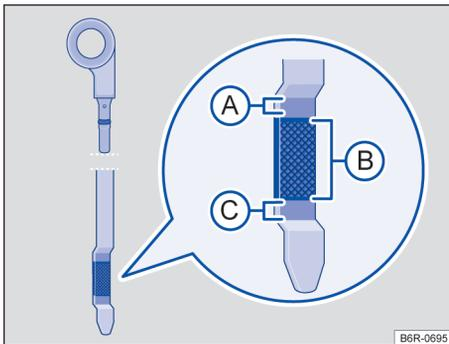
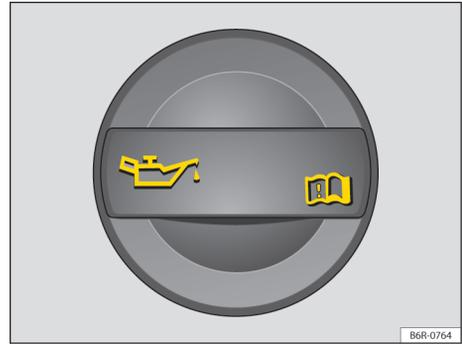

Fig. 171 Oil dipstick with markings.
Fig. 172 On the engine compartment: engine oil opening lid.
When the engine is working hard, the oil level must be kept within the → Fig. 171 (A) area – for instance during long motorway cruising in summer or climbing mountain passes.
Key for → Fig. 171:
4. Identify the engine oil filler cap and oil dipstick. The engine oil filler opening bears the  symbol on the cap → Fig. 172 and the oil dipstick has a coloured handle. If you cannot find the cap and dipstick please contact a Volkswagen Dealership or qualified workshop.
5. Pull the dipstick out of the guide tube and wipe it off with a clean cloth → ①.
7. Pull the dipstick out again and read the engine oil level on the dipstick → Fig. 171 as follows:
9. Unscrew the engine oil filler opening cap → Fig. 172.
12. Read the engine oil level from the dipstick again before refilling with a further small quantity of engine oil. Never overfill engine oil → ①.
13. After the refilling procedure, the engine oil level must be at least in the centre of area → Fig. 171 Ⓑ, but never above area Ⓐ → ①.
14. If excess oil is accidentally refilled and the engine oil level is above the → Fig. 171 Ⓐ mark, **do not start the engine**. Go to a Volkswagen Dealership or qualified workshop.
- Do not start the engine when the engine oil level is above the range → Fig. 171 Ⓐ. Go to a Volkswagen Dealership or qualified workshop. The catalytic converter and the engine could otherwise be damaged!
The engine oil level must never exceed the → Fig. 171 Ⓐ region, otherwise, the oil may be aspirated by the crankcase ventilation and discharged into the atmosphere by the exhaust system. Additionally, oil may be combusted inside the catalytic converter, damaging it.